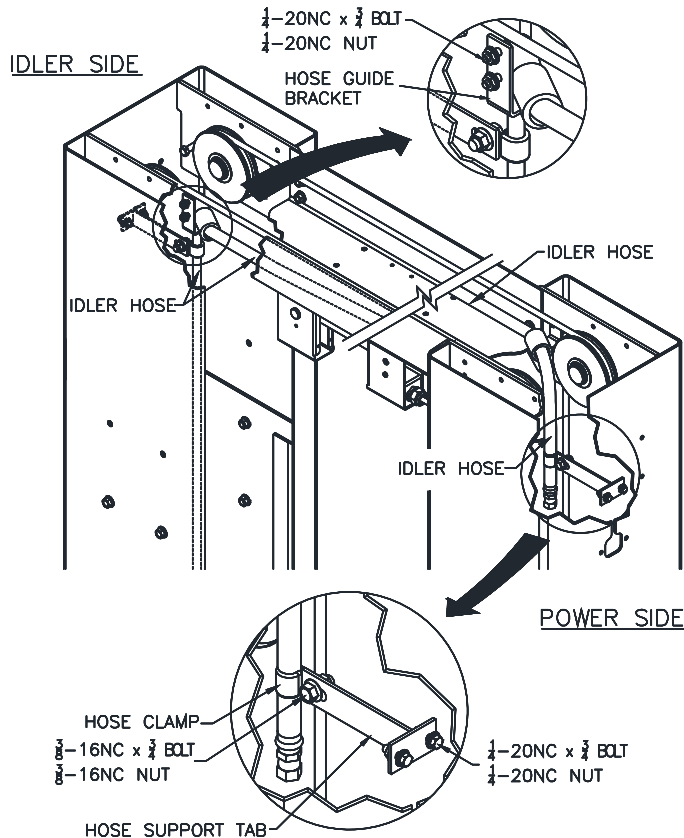

Fig. 13 – Idler Hose Routing & Hose Brackets
- 34) Install the Hose Guide Brackets and Hose Support Tabs to both the Idler & Power Columns using 1/4" -20NC x 3/4" lg. hex flange bolt and nut, see Fig 13.
- 35) Uncoil Idler side hose and Overhead hose and attach them together. Route the loose end up the Idler Side column extension and attach to the Hose Support Tab with a "P" Clamp, Fig. 13. (Each hose clamp requires one 3/8"-16NC x 3/4" lg. hex flange bolt and one hex flange nut.) Remove slack and tighten the clamp.
- 36) Route hose across overhead through both Hose Guide Brackets, Fig.13, and down through the Power Side column extension. Do not attach clamps to the Overhead Hose at this time.
- 48) Attach the power unit hose to the column and column extension using the hose clamps, **Fig.13**.